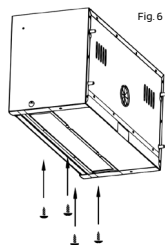

Fig. 6
5. Fix the LED panels in place using the four DIN79813.5 x 9.5 self-tapping screws supplied (Fig. 6).